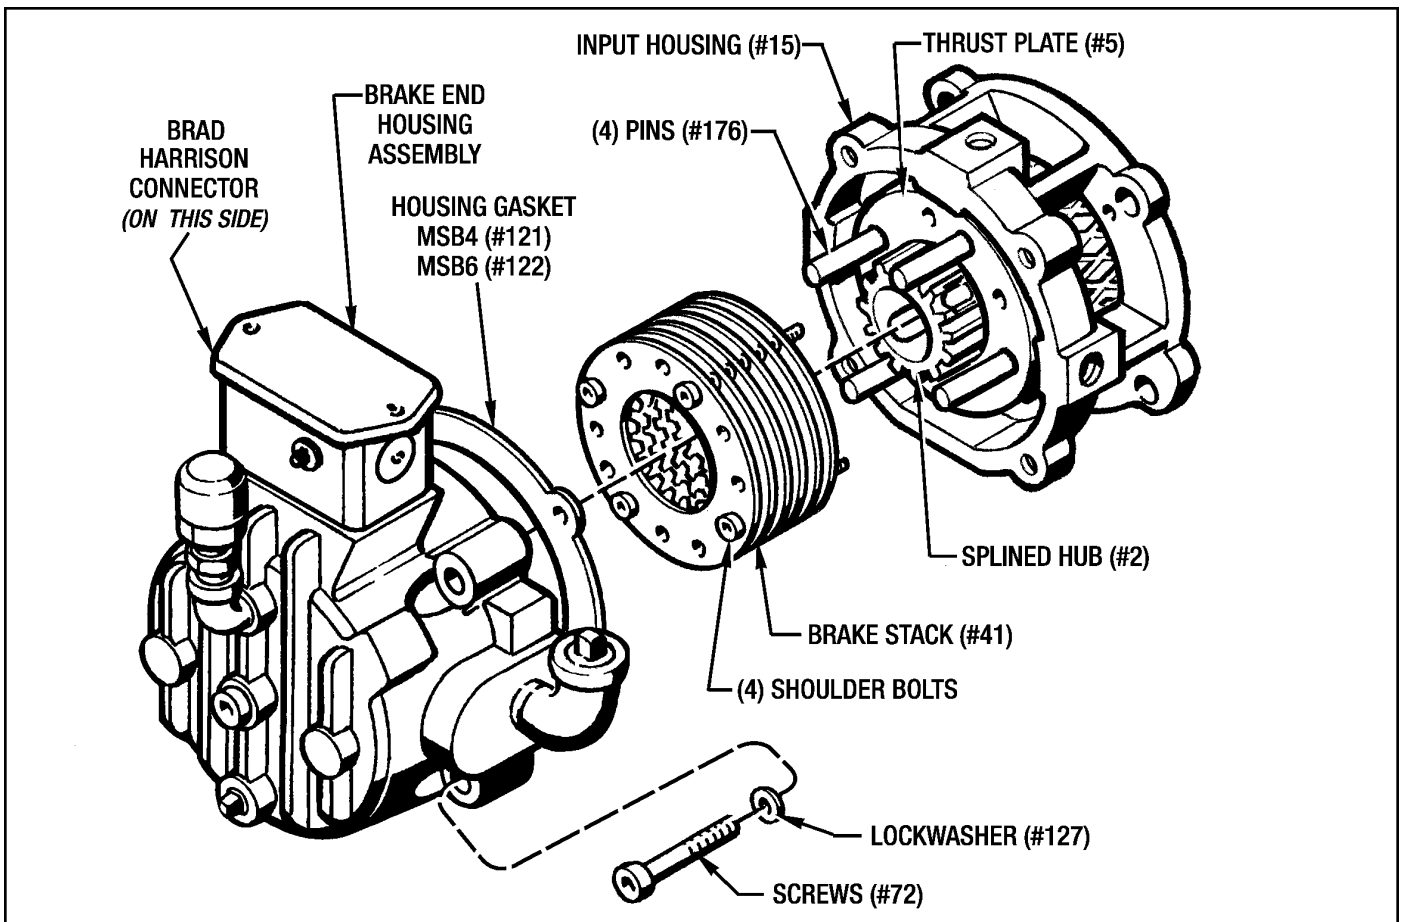

Figure 7.4 - Replacing MSB4 and MSB6 Brake Stack
(See Figures 7.4, 8.3 and 8.4)
3. Remove the Screws (#72) and Lockwashers (#127) from the End Housing (#9). *There are (4) Screws and Lockwashers on the MSB4 Brake. The MSB6 Brake has (8) Screws and Lockwashers.*
5. The Brake Stack (#41) can now be removed by unscrewing the (4) shoulder bolts that attaches the drive plates to Housing (#15). Pull the Stack off the Hub (#2) spline and the (4) Pins (#176). (See Figure 7.4)